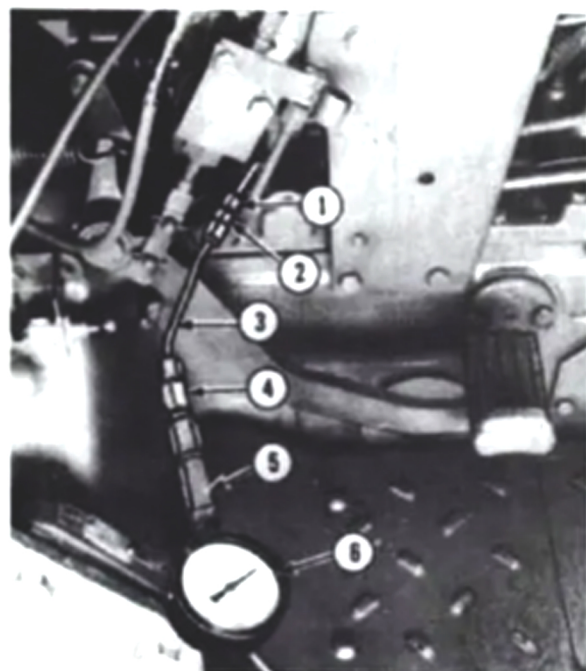

Fig. 104—Install test gage in test port of multi-valve to check charge pressure.
92. CHARGE PUMP PRESSURE AND FLOW. Adequate charge pump pressure and flow are necessary for an efficient operation of the hydrostatic unit. To check charge pump pressure and flow, support rear of tractor so both rear wheels are free to rotate. Operate tractor until transmission oil is warmed to 135°F. Stop engine and connect a 600 psi test gage to the test port in the top of the multi-valve as shown in Fig. 104. Start engine and operate at 700-750 rpm. With the S-R lever in neutral, charge pressure should be 190-230 psi. Move S-R lever to place hydrostatic pump in stroke position and charge pressure should be 80-130 psi.